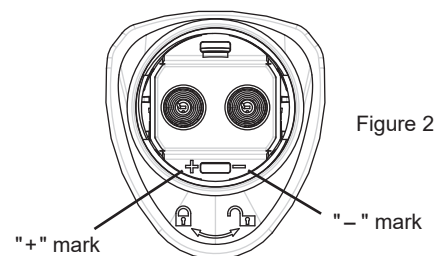

Figure 2
2. Install a new 9V battery (6F22 or equivalent) into the battery compartment, make sure the polarity connections are correct (see Figure 2); otherwise the metal detector may be damaged.